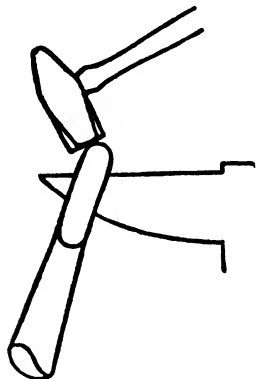

FIG. 34
11. Place the hole on the tip of the horn and round the corners of the stock forming the eye by swinging the tongs out during the rounding process until they form a 45 degree angle with the horn. Fig. 34.